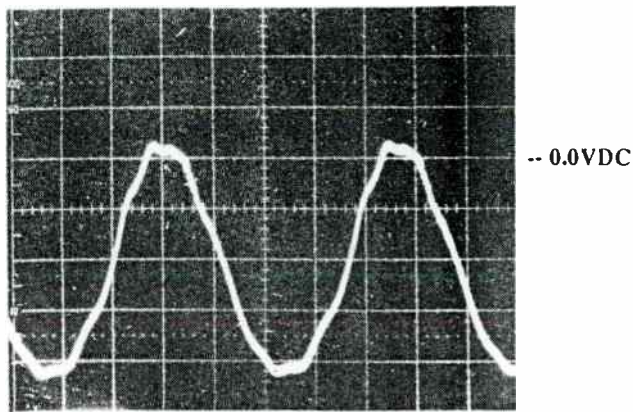

Figure 6-4
- With the scope DC coupled, note that an rf sine wave is now displayed on the scope. The waveform should normally measure from 21 to 24 Vp-p and should be centered on the 0.0Vdc line of the scope. The drive level may be lower than 20Vp-p at this time. If the waveform falls totally below the 0.0Vdc line of the scope, the amplifier is turned OFF. See Figures 6-4 and 6-5 for drive waveforms.